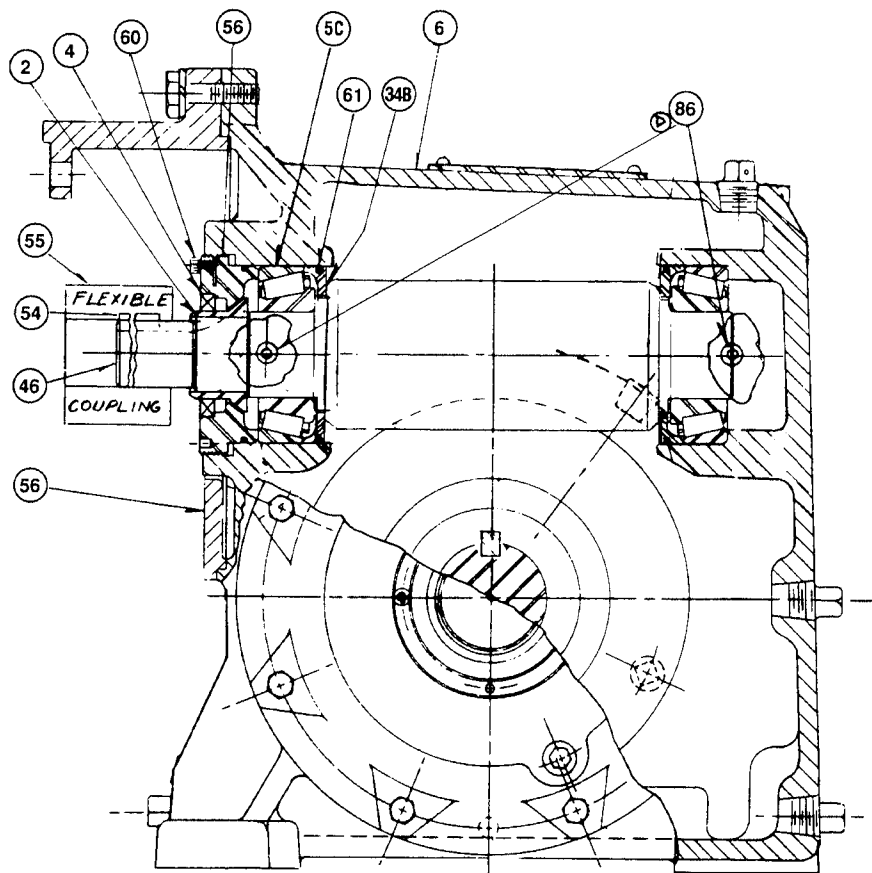

Figure 1
INSTRUCTIONS FOR THE DISASSEMBLY AND REASSEMBLY OF SIZE 40 XL SINGLE REDUCTION GEARMOTORS AND C-FACE REDUCERS (Refer to Figures 1 & 2)
3. Remove screws holding the bearing housing (8), tap housing to loosen at the gasketed joint, then remove from the gearcase (6).
4. Lift out the output shaft (17) which includes the bronze worm gear.
5. To remove input shaft assembly (46) loosen the bearing cap locking screw (60) (Fig. 1), install face type spanner tool in the two pin holes in the face of the oil seal bearing cap assembly (56) and unscrew counter-clockwise and remove. Pull input shaft assembly including bearings (5C) and grease retainer (34B) with 'O' ring (61) from gearcase.
1. Press a new seal sleeve (2) on the input shaft. Some sealer should first be applied to the shaft at the sleeve location. Do not use so much that it gets on the sleeve OD or lip seal as this will result in seal leakage.
2. Before installing the input shaft, remove the grease pipe plugs (86) and pack the roller bearings and bearing bore with standard ball bearing grease, such as Shell Alvania #2 or equivalent. Install input shaft (46) into the gearcase, then pack the front bearing with standard grease as above, then screw the oil seal bearing cap assembly (56) in place and adjust for proper end play. Reinstall grease plugs.
clearance screw the cap clockwise until bearings have zero clearance. Draw a pencil line in vertical position across the face of the cap and the gearcase; then back off the cap counterclockwise and measure between the mark; turn cap $1\frac{1}{2}$ to $1\frac{5}{8}$ inches counterclockwise; (.003" to .005" end play) and retighten bearing cap lock screw (60) (Fig. 1) to 75 inch lbs.
3. Press a new seal sleeve on the output shaft (17). However, first apply some sealer to the sleeve location.
4. Reassemble by installing the closed bearing housing (45) with gasket, then insert the output shaft assembly (17) into the gearcase. Install open bearing housing (8) with gasket.